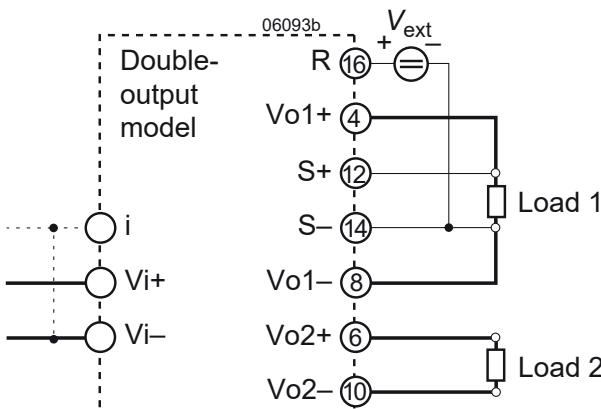

Fig. 20
a) Adjustment by means of an external control voltage  $V_{ext}$  between R (pin 16) and S- (pin 14); see fig. 20.